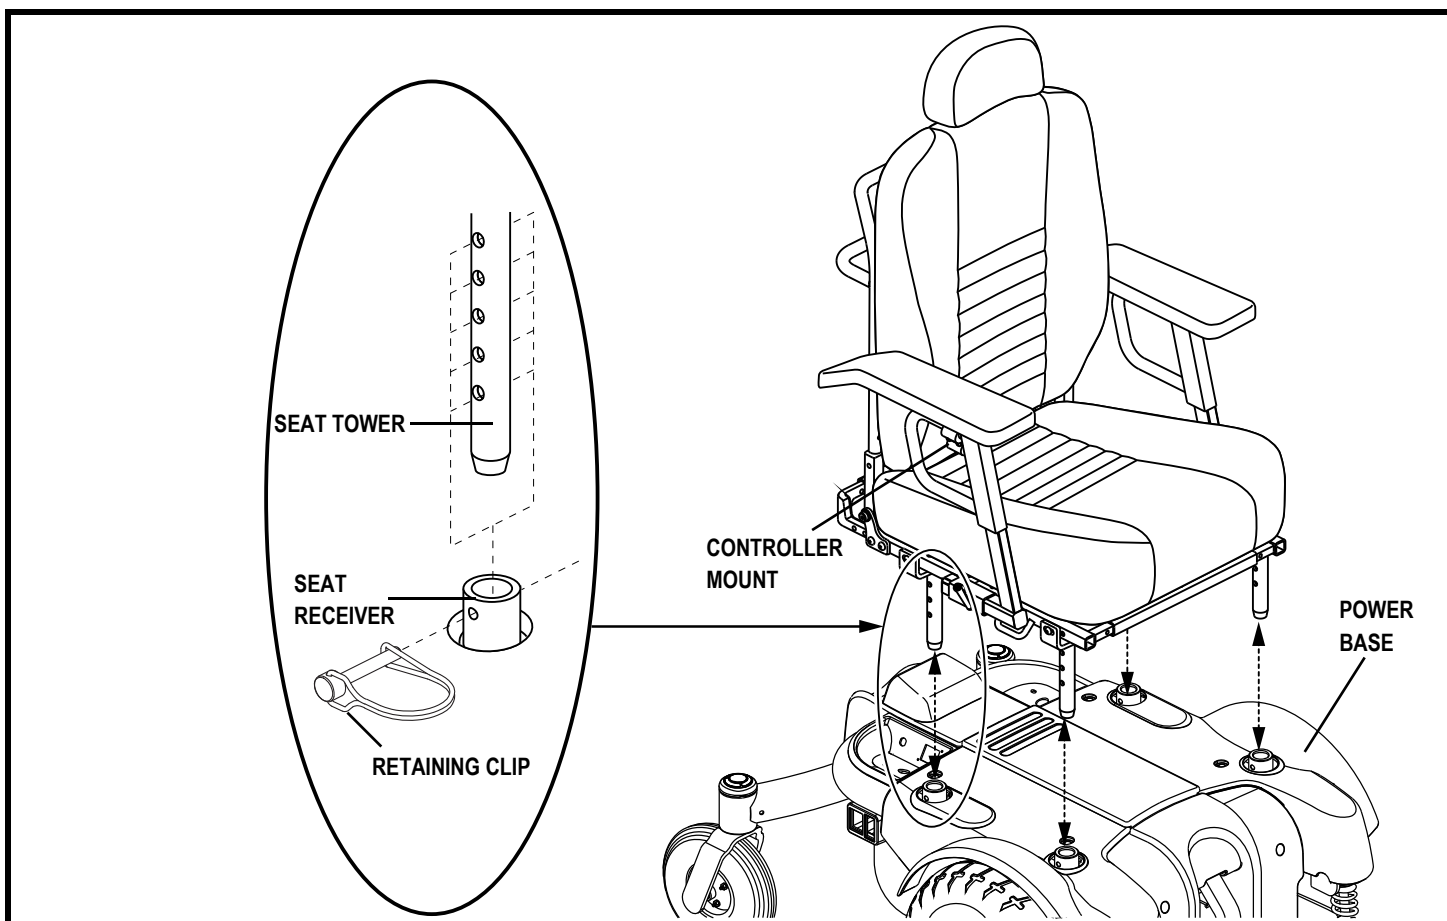

Figure 11. Euro Seat Installation/Removal
2. Align each seat tower with the corresponding receiver. **See figure 11.**
1. Remove the retaining clip from each of the four seat towers. See figure 11.